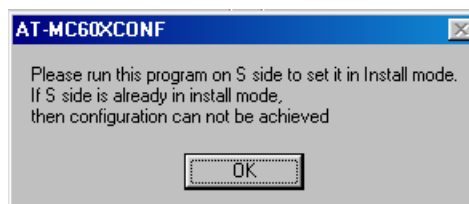

Figure 29 Run on S Side Error Message
- "Please run this program on S side to set it in Install mode. If S side is already in install mode then configuration can not be achieved,"** as shown in Figure 29.